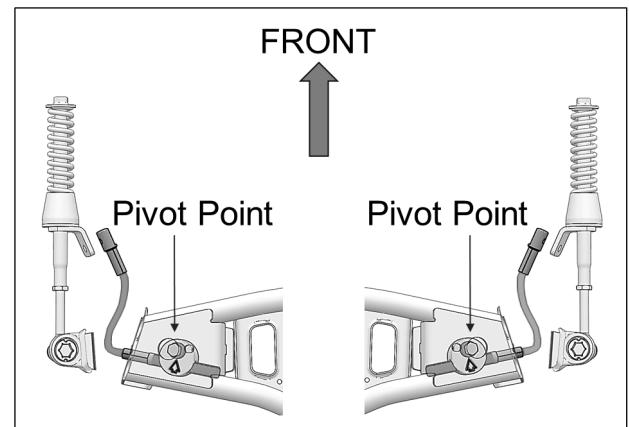

Fig. 26
14. Make sure aluminum disk pivot point is installed in front of steering limiter cable. See Fig. 26